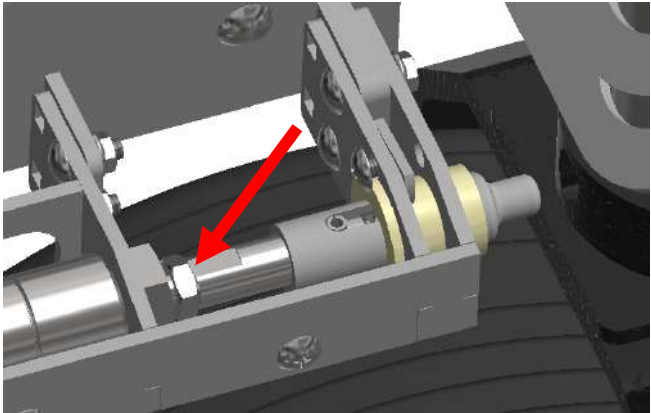

Fig. 1
- Loosen the adjustment nut (11/16") on both cylinders. *Fig. 1*